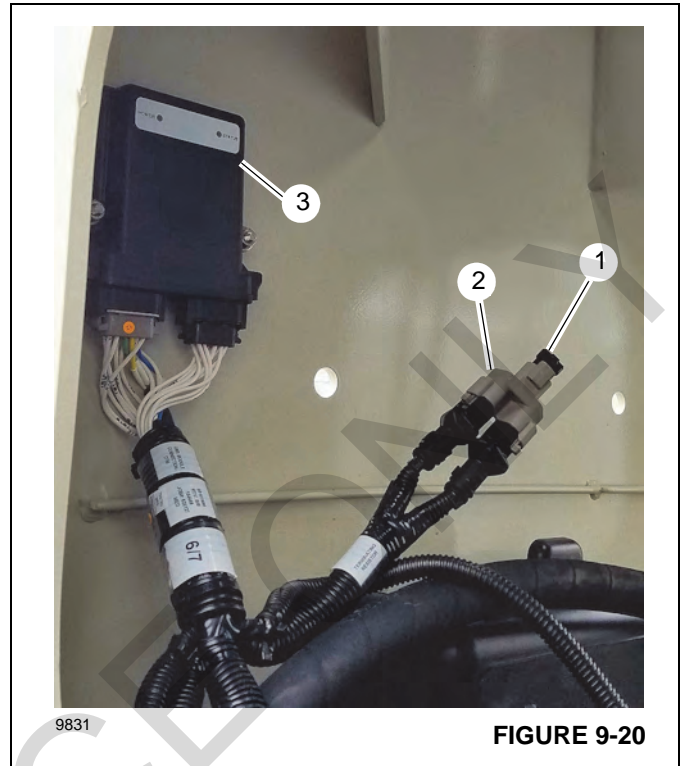

FIGURE 9-20
1. Locate the terminating resistor (1, Figure 9-20) and Deutsch splitter (2) near the OMS throttle module (3) on the driver's side of the crane frame.